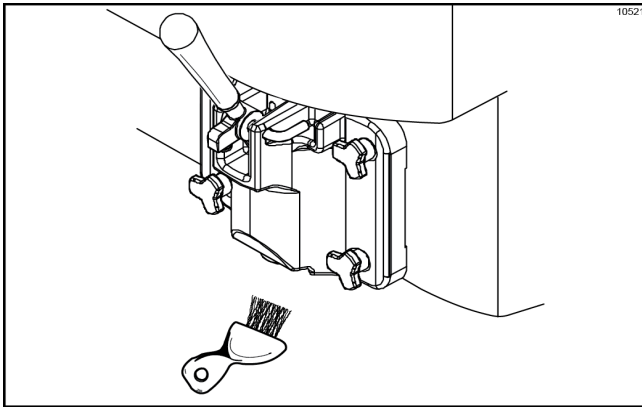

Figure-40
2. Return to the freezer with a small amount of sanitizing solution. Dip the door-spout brush into the sanitizing solution and brush-clean the door spout and bottom of the draw valve. (See Figure-40.)